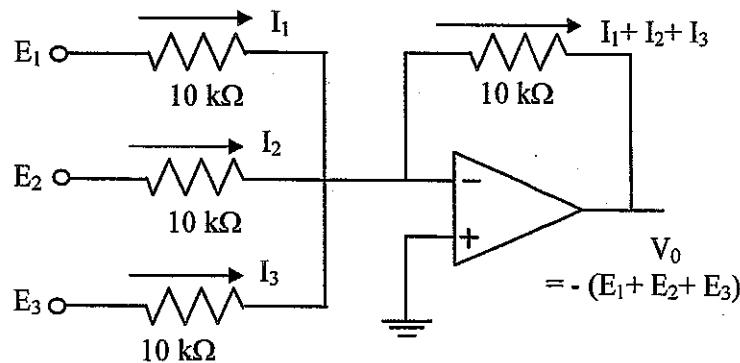

Fig. 1 Adder circuit
Addition: Using the concept of inverting amplifier, the op-amp can be used as an adder (actually inverting adder) to sum up some input signals. In Fig.1 the output of the op-amp is
1. Implement the adder circuit as shown in Fig.1. Apply the supply voltages as +12V and -12V at pin no. 7 and 4 respectively. Apply the input voltages $E_1= 2V$, $E_2= 3V$ and $E_3= 4V$, and measure the output voltage.